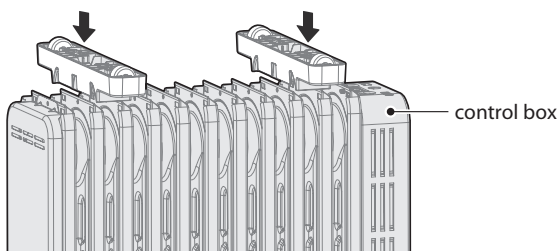

Figure 1
- 2 As shown in Figure 1, align the installation slot of one foot assembly between the second and third fins, and then press down to clip it in; Align the installation slot of the other foot assembly between the second to last and third to last fins, and then press down to clip it in.